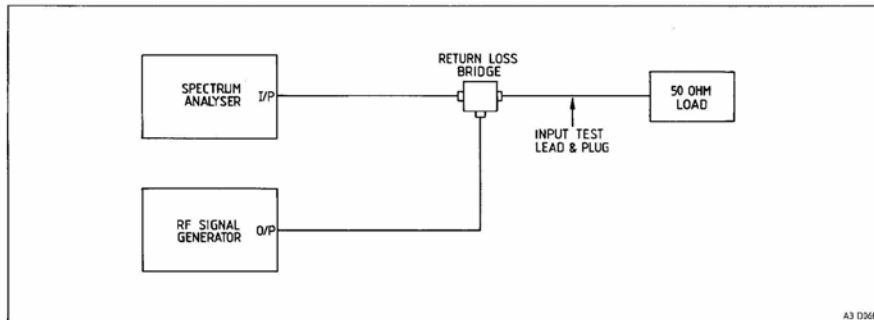

Fig.1 'Return Loss' Measurement
3. With the test equipment connected as shown in Fig.1 measure the 'return loss' of the 50Ω termaline load. This should be greater than 25dB.